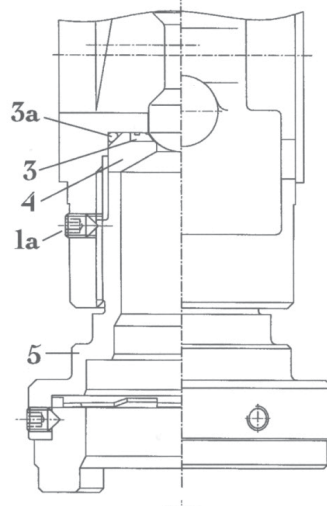
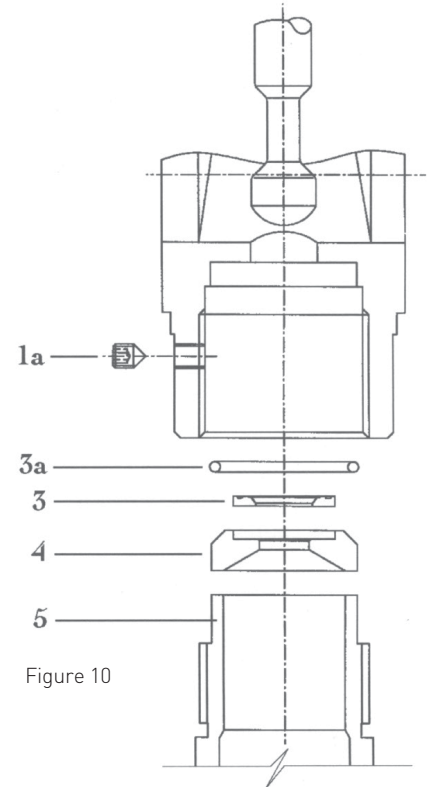

Figure 9
Figure 10
- 3 *Wafer body design (See Fig. 9 and Fig. 10)*